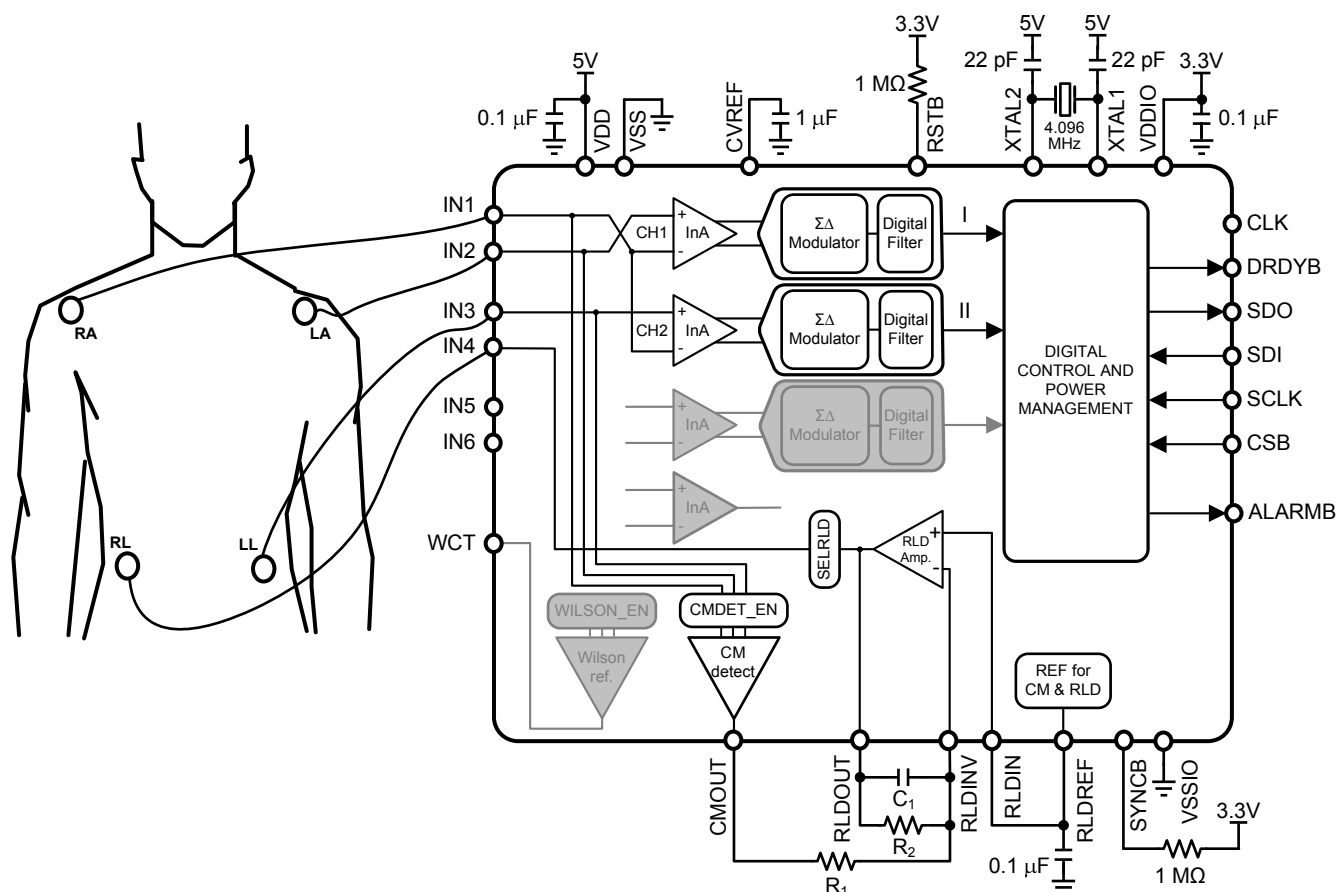

Figure 32. 3-Lead ECG Application
A 3-Lead ECG system can be implemented using two channels as shown in Figure 32. In this example, the right arm (RA), left arm (LA), left leg (LL) and right leg (RL) are connected to the IN1, IN2, IN3 and IN4 pins respectively. The ADS1293 uses the Common-Mode Detector block to measure the common-mode of the patient's body by averaging the voltage of input pins IN1, IN2 and IN3, and uses this signal in the right leg drive feedback circuit(1). The output of the RLD amplifier is connected internally to the IN4 pin, which is connected to the right leg electrode, to drive the common-mode of the patient's body. The chip uses an external 4.096MHz crystal oscillator connected between the XTAL1 and XTAL2 pins to create the clock sources for the device.